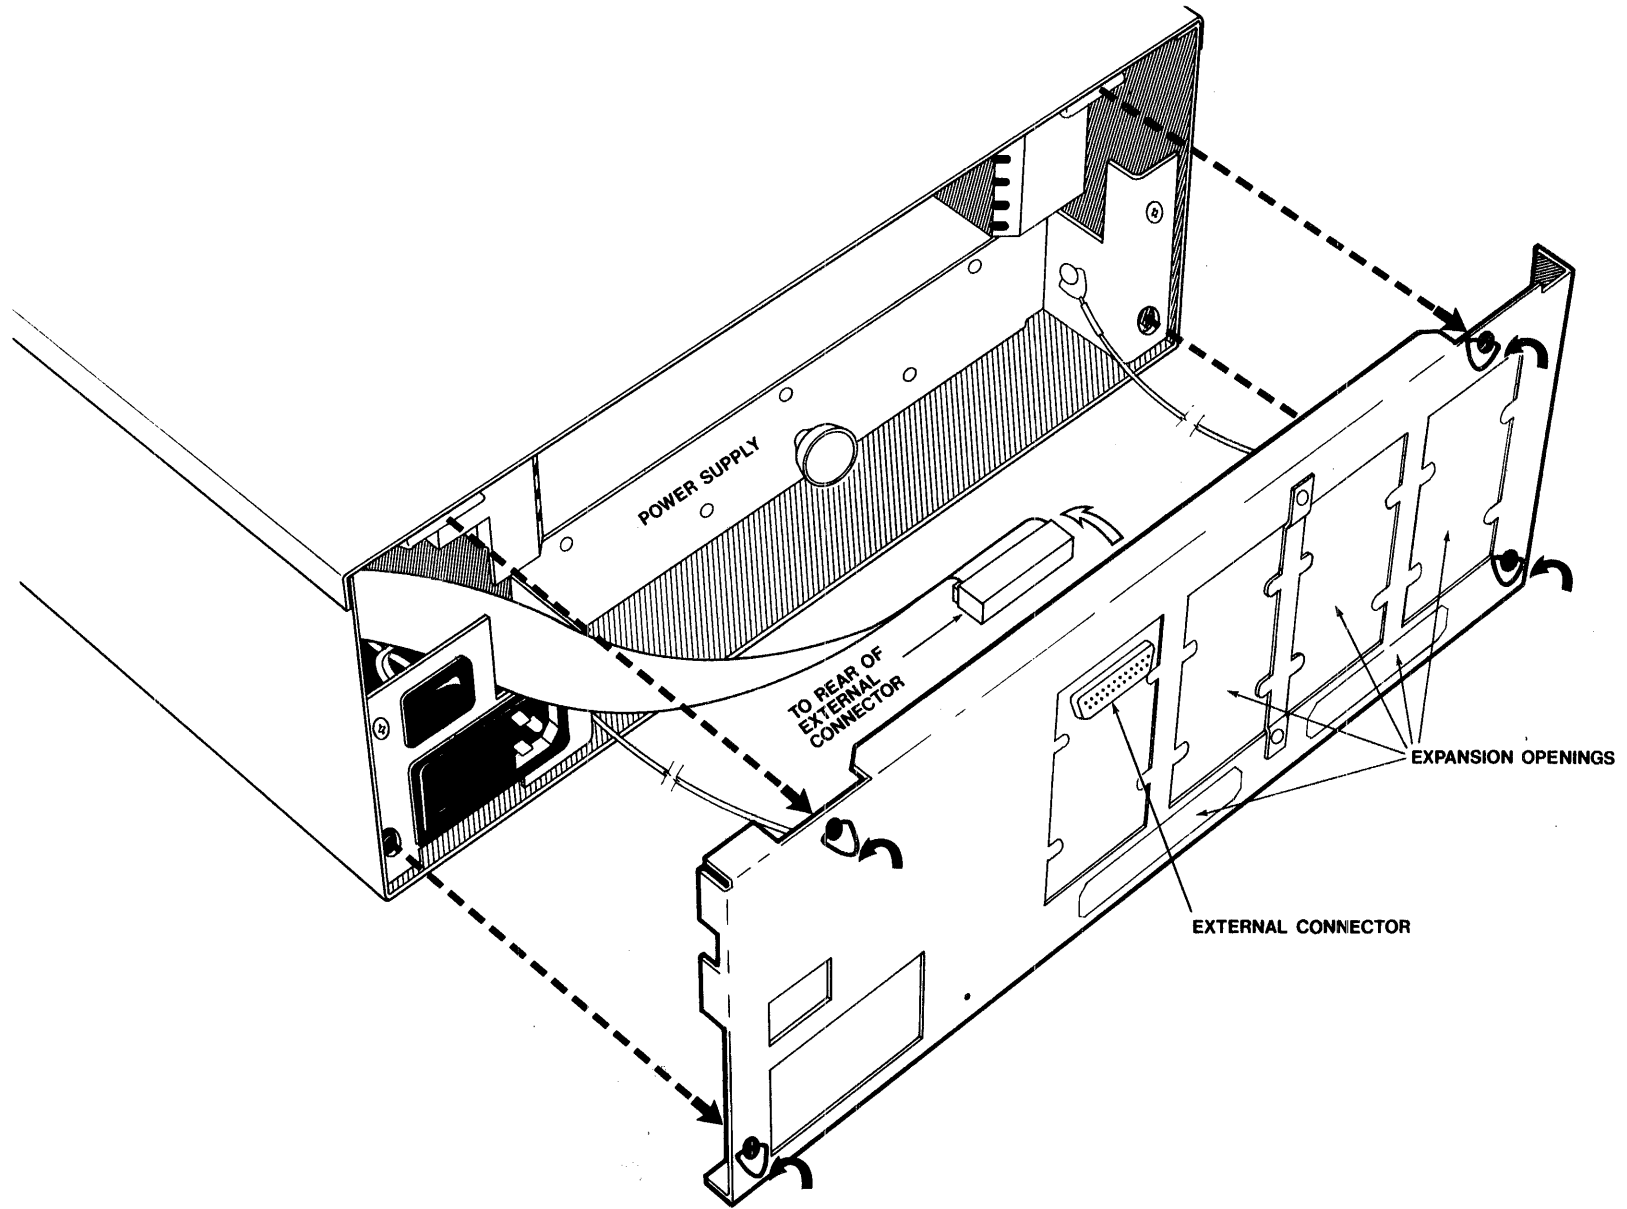

Fig. 10-3 Removal of rear panel
5. REAR PANEL. As shown in Figure 10-3, remove the rear panel by rotating its four captive fasteners by hand one quarter turn. Remove the ribbon connector from the rear panel and then remove the two safety wires by rotating their fasteners a quarter turn.